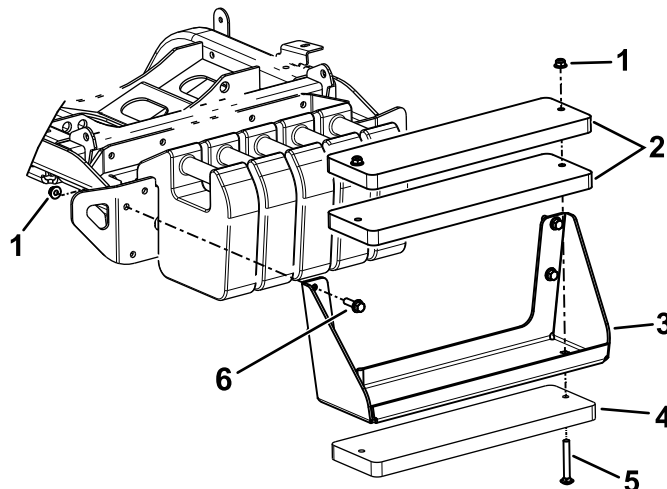

Figure 20
**Note:** Refer to Figure 20 for these steps.
- A. Use the bolts (3/8 x 4 inches) and nuts (3/8 inch) to secure the 3 weights to the bracket (Figure 20).
- B. Use the hex-head bolts and nuts (included in the kit) to secure the weight bracket to the machine (Figure 20).
- A. Remove the weight bracket from the machine (Figure 20).
- C. Use the bolts (3/8 x 4 inches) and nuts (3/8 inch) to secure the 3 weights to the bracket (Figure 20).
- D. Use the previously removed hardware to secure the weight bracket to the machine (Figure 20).